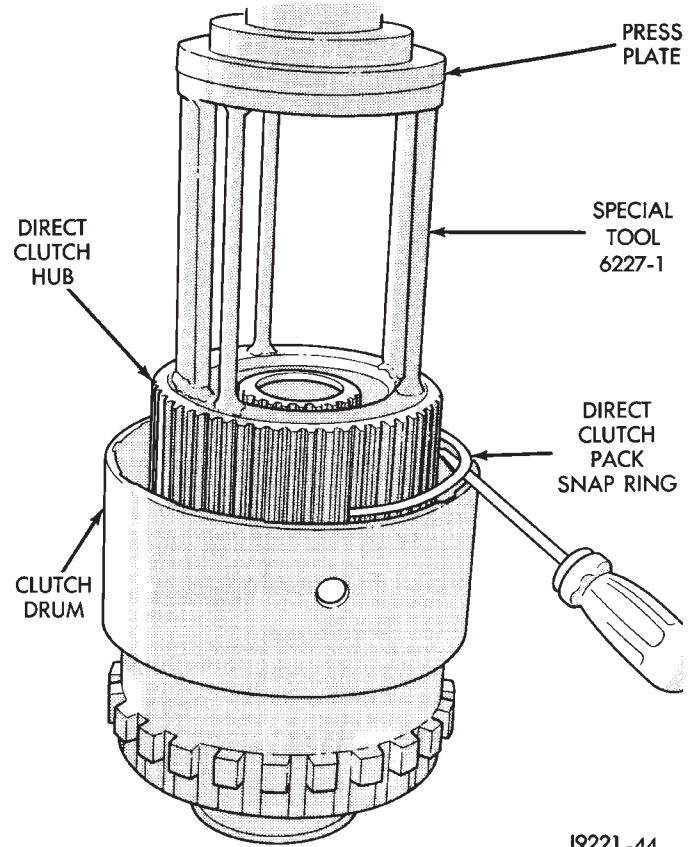

Fig. 315 Removing Direct Clutch Pack Snap Ring
- (3) Mount geartrain in shop press.
- (4) Position Compressor Tool 6227-1 on clutch hub (Fig. 315). Support output shaft flange with steel press plates as shown and center assembly under press ram.
- (5) Apply press pressure slowly. Compress hub and spring far enough to expose clutch hub retaining ring and relieve spring pressure on clutch pack snap ring (Fig. 315).
- (6) Remove direct clutch pack snap ring first (Fig. 315).